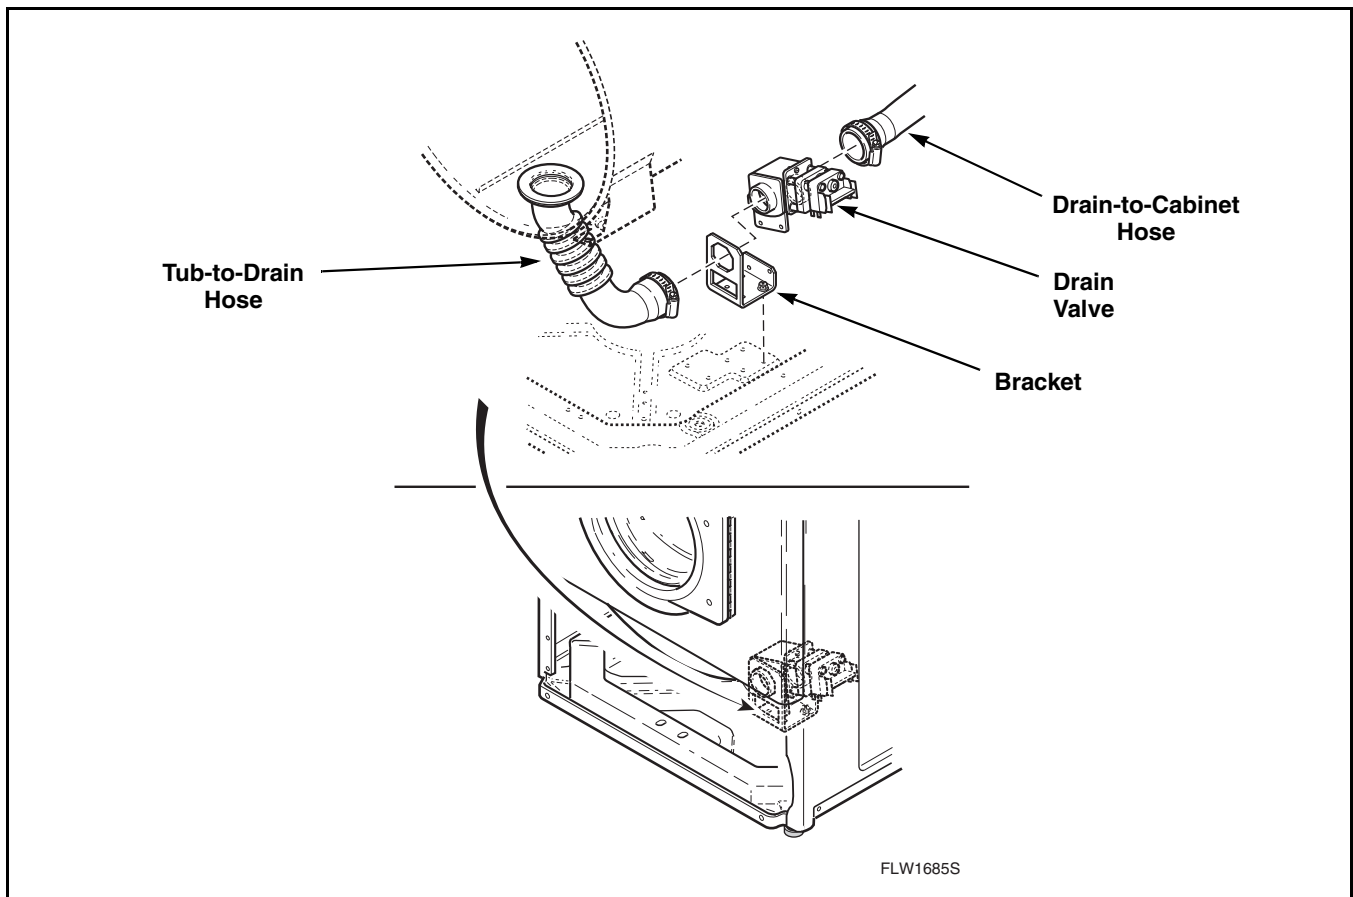

Figure 31
- c. Loosen hose clamps and remove tub-to-drain and drain-to-cabinet hoses connected to drain valve. Refer to *Figure 31*.
- e. Remove screws holding valve to bracket and remove valve through front of washer. Refer to *Figure 31*.